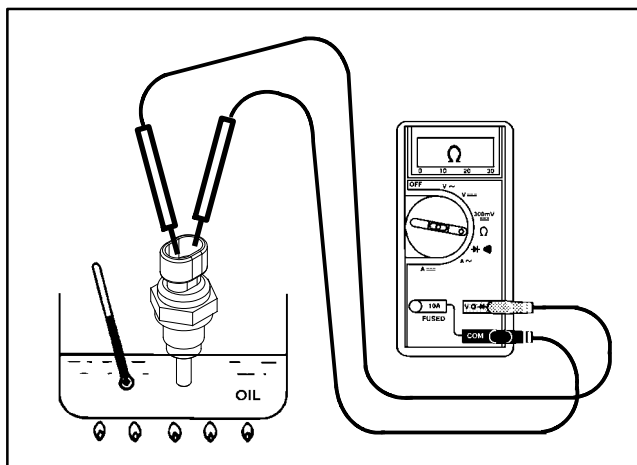

Figure 64
3. Put sensing end of sender in a container of oil with a thermometer and slowly heat the oil (Fig. 64).